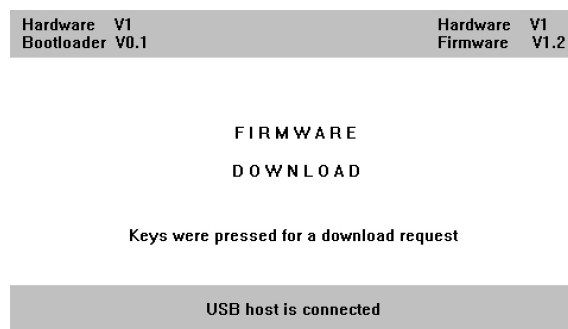

Fig. II.49 Software update (firmware update)
- ▶ **Simultaneously** press and hold the C key and the ENTER key on the ND **while switching the ND on**. The ND displays the currently installed hardware and firmware versions and is now ready for a software download (firmware download), see Fig. II.49.